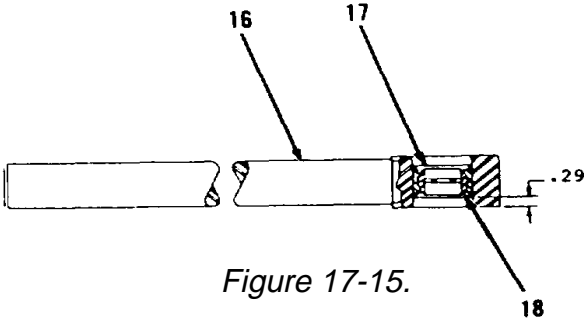

Figure 17-15.
4. Using bearing driver, install ring (17) immediately next to new bearing (18, Figure 17-15). There should be a depth of 0.29 inch from outer surface of rod assembly (16) to ring (17).